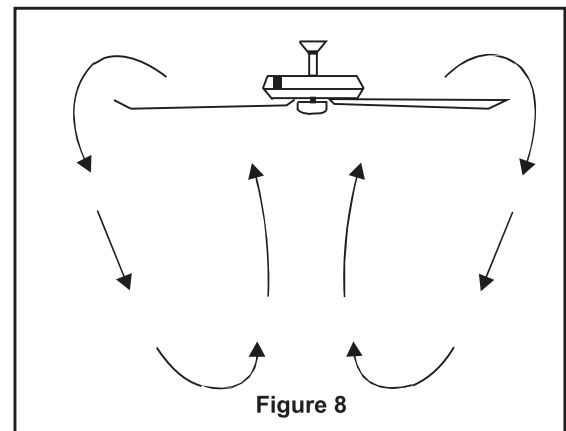

Figure 8
- Cool weather - (Reverse) An upward airflow moves warm air off the ceiling area as shown in. (Figure 8) This allows you to set your heating unit on a lower setting without affecting your comfort.